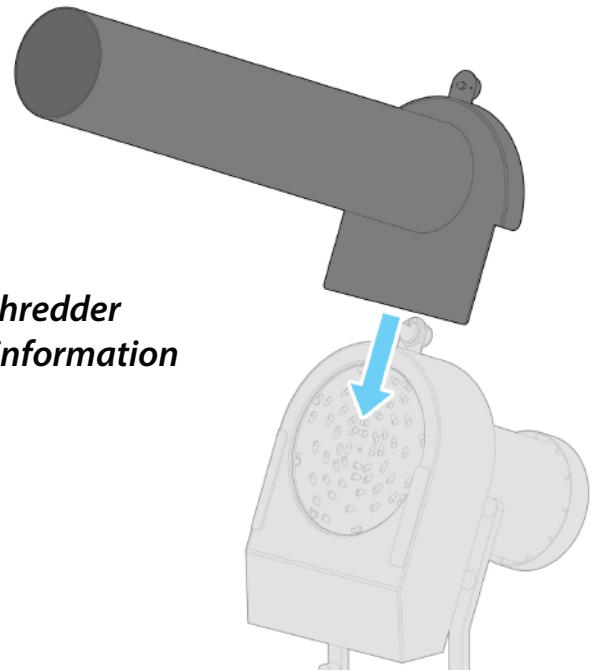

Figure 11: Installation of the Shredder Tube onto the Shredder housing.
- Slide the Shredder Tube into position (**Figure 11**). Take care not to damage interlock sensors mounted on Tube and Housing.